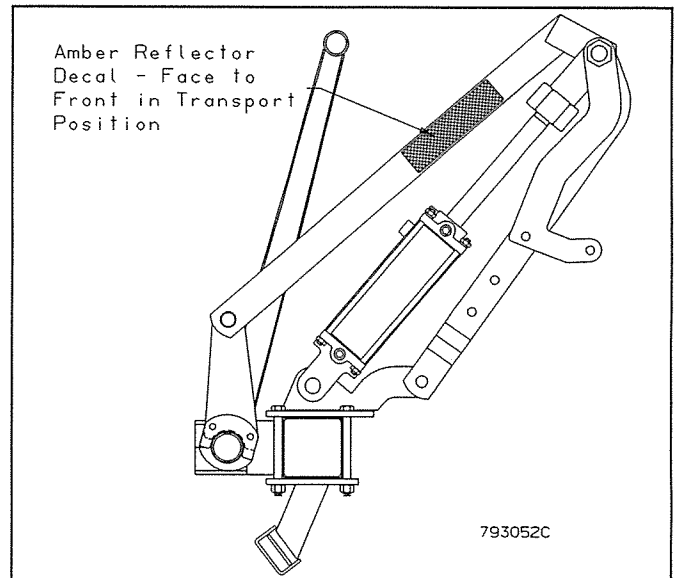

Figure 2.2c: Amber Decal Mount Locations
6. Mount amber decals on left and right cylinder locks facing the front (in transport position) per Figure 2.2c.